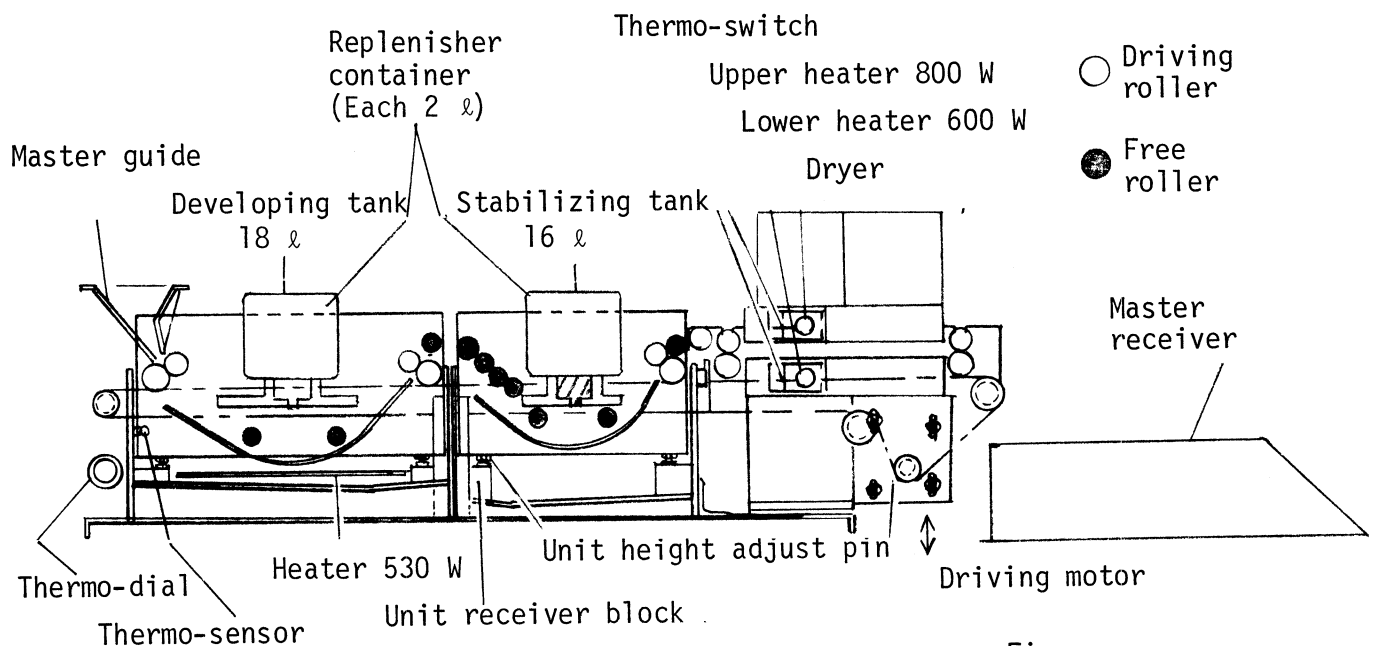

Fig. 28
- (1) Make sure of smooth rotation of the free rollers. (See Fig.28).
- (2) If any free roller surface is dirty, polish it with the supplied polishing compound.
- (3) Dust off the inner side of the master guide, especially its surface to be in contact with the master emulsion surface.
- (4) Check the upper guide plate (aluminum perforated plate) of the dryer (master emulsion side) for a warp or foreign matter.